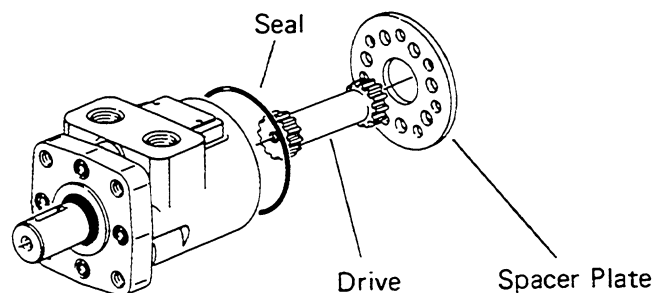

Figure 4
- 8 Remove drive. See Figure 4.